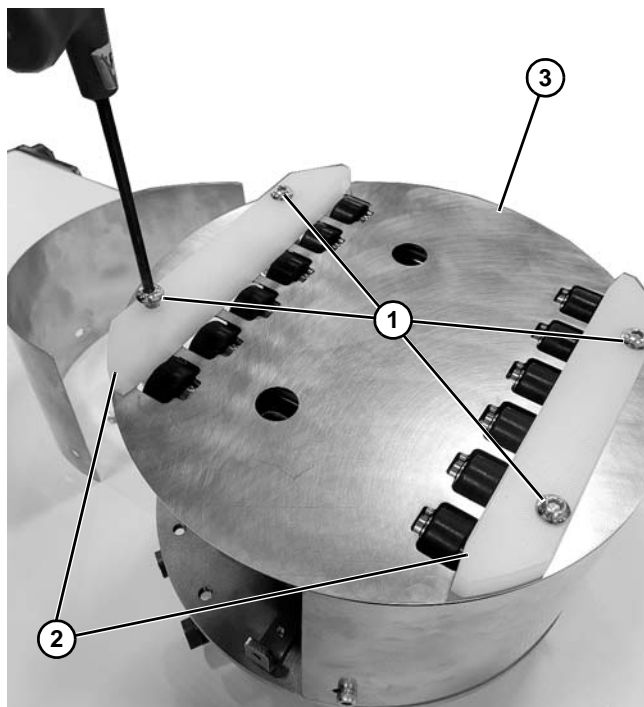

Figure 130
1. Remove four screws (Figure 130, item 1) that secure the two pallet guides (Figure 130, item 2) and top plate (Figure 130, item 3).